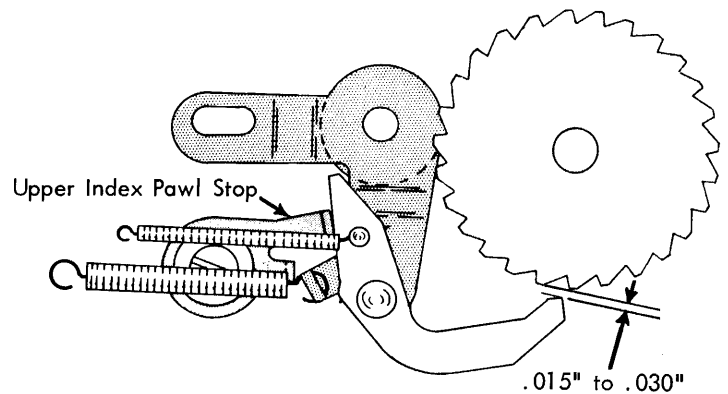

FIGURE 224. Upper Index Pawl Stop Adjustment
- 3. Upper Index Pawl Stop - With the index cam latched adjust the upper index pawl stop so that the index pawl clears the ratchet by .015" to .030" (Fig. 224).